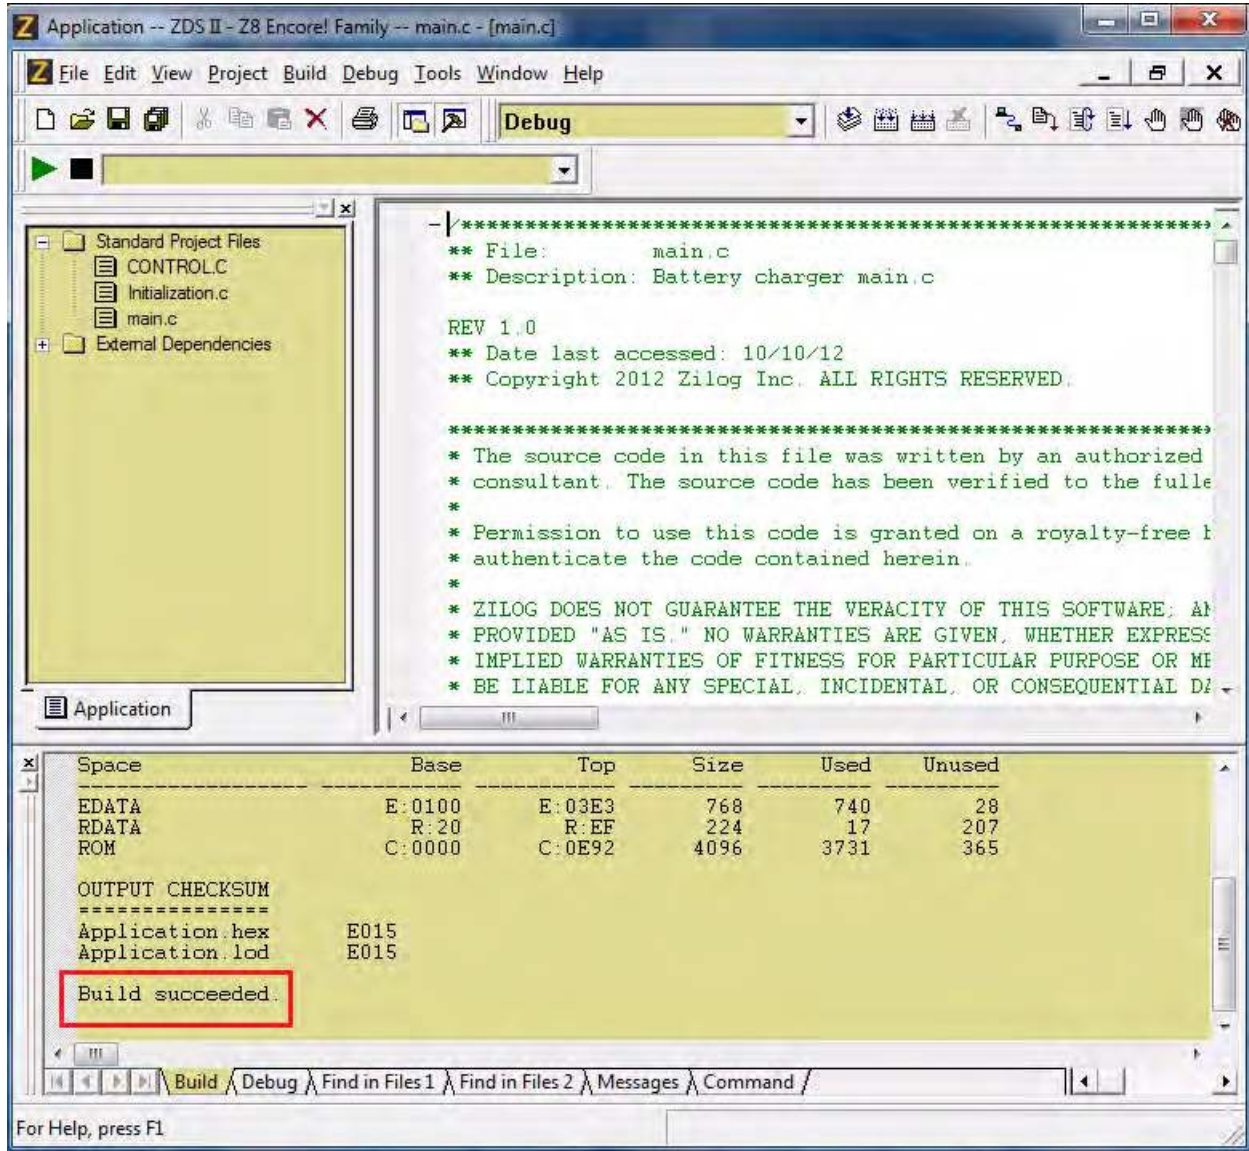

Figure 5. A Successful Build
7. When the rebuild is complete, a `Build succeeded.` message will appear, as highlighted in Figure 5.
► **Note:** The output checksum shown in Figure 5 is for reference only and may not display the same results at the time of release.